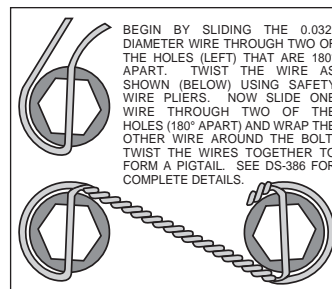

Figure 4. Safety Wire Diagram
- The hat/rotor assembly (4) has been pre-assembled at the factory using red *Loctite*® 271 on the mounting bolts and torqued to specification. For an added measure of security, the bolts may be safety wired using standard 0.032 inch diameter stainless steel safety wire as shown in Figure 4. Please refer to Wilwood's data sheet DS-386 (available at [www.wilwood.com/Pdf/DataSheets/ds386.pdf](http://www.wilwood.com/Pdf/DataSheets/ds386.pdf)) for complete safety wire installation instructions.